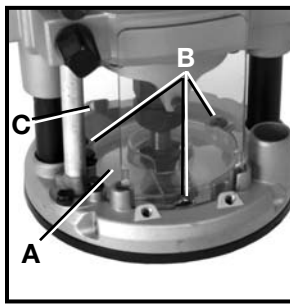

Fig. 2
1. Remove the chip deflector (A) Fig. 2, the three clear dust cover retaining screws (B) (slotted screw-driver or T20 torque wrench), and the clear dust cover (C) Fig. 2.